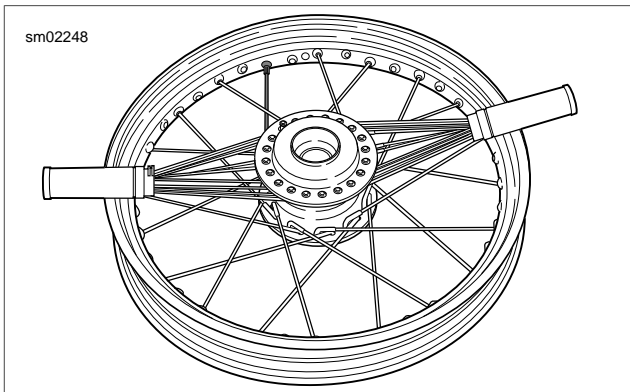

Figure 2-33. Beginning Spoke: Bottom Flange Outer
13. See Figure 2-33. Using the spoke alignment method discussed previously, Locate a hole pointing downward and outward toward the bottom flange of outer spokes (short head).